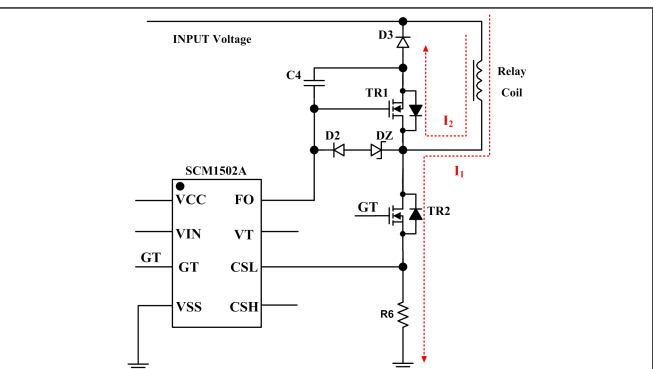

Fig. 6 Equivalent Circuits in the Pick-up and Holding Stages
(2) In Fig. 6, since the MOS transistor TR1 is turned on all time during normal operation, the main power circuit can be equivalent to the equivalent circuit of the Pick-up and Holding stages. When the MOS transistor TR2 is turned on, the relay coil is excited, the coil current is increased, and the